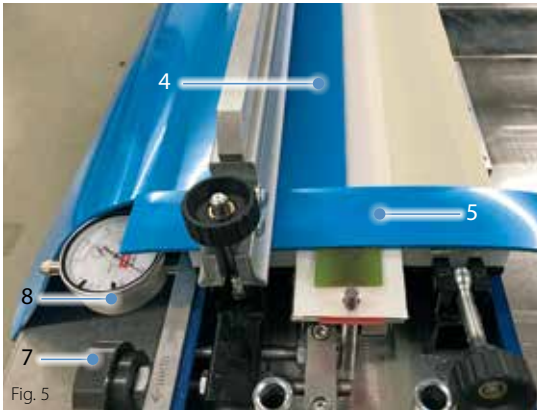

Fig. 5
⚠ Caution: If the belting material is narrower than the press's nominal width, both the inlays and the rest of the area to be heated must be fully lined with material (5). (Fig. 5)
- **Only applies to FLT belts:** There must be no gap in the area where the two belts touch each other. Should there be a gap, use the belt set screws (7) to close it. (Fig. 5)
Turn the belt set screw (7) to create even impact pressure until the two ends of the belt touching one another lift up slightly. Turn both belt set screws by the same value towards Closed. The dial gauge (8) shows the value. (Fig. 5)